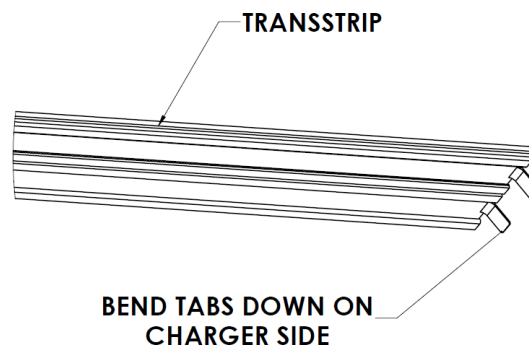

Figure 33: **Bend the Male Terminal Tabs Approximately 45°**
- e. Use pliers to bend the male terminal tabs approximately 45° (Figure 33).